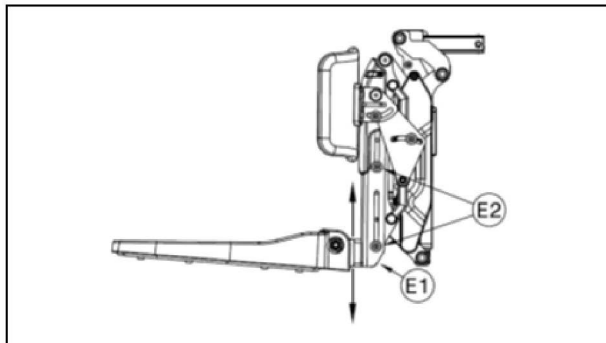

Fig 10
- (1) Use Allen key to loosen four screws <E2>. (Fig 10)
- (2) Adjust the leg length <E1> to desired position. (Fig 10)
- (3) Use Allen key to tighten four screws <E2>. (Fig 10)